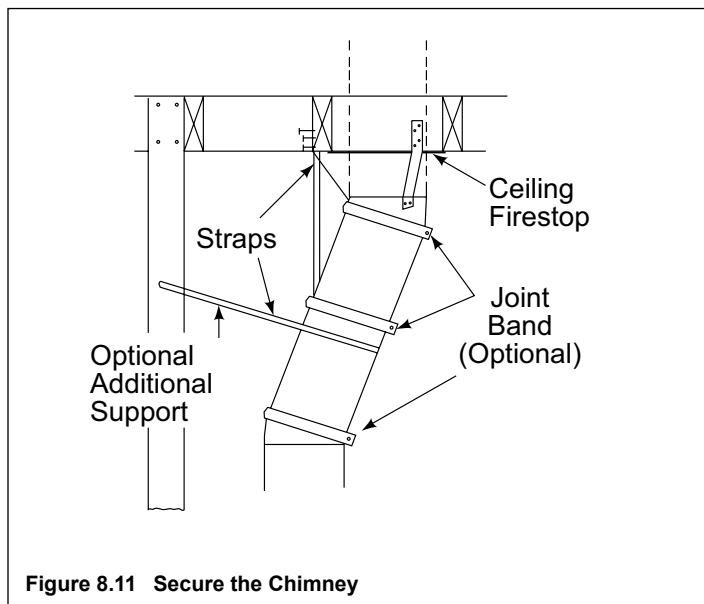

Figure 8.11 Secure the Chimney
When offsets and returns are joined to straight pipe sections, they must be locked into position with the screws provided* (outer only), using the predrilled holes. To prevent gravity from pulling the chimney sections apart, the returns and the chimney stabilizers have hanger straps for securing these parts to joists or rafters. See Figure 8.11 on page 48.
- Refer to Figure 8.11.